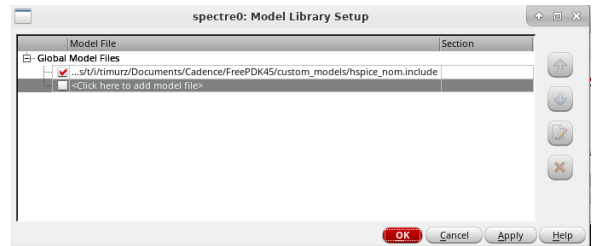

Figure 17: Setting up simulation models
- In the “Model Library Setup” window, click on “Click here to add model file” and click on “...”. In the window that opens, select “hspice_nom.include” file that is located under $\sim$ /EC571/FreePDK 45/custom_models. Click OK (Figure 17).